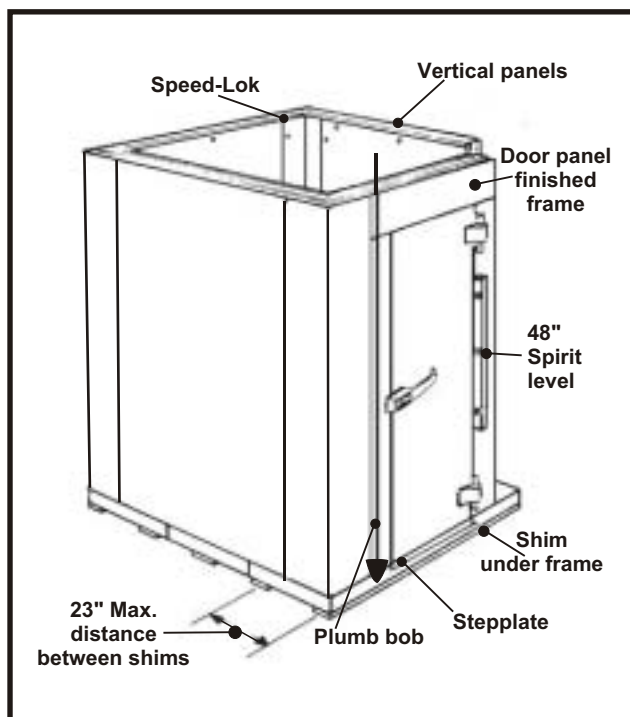

Fig. 12
- D. To prevent sagging or twisting of the door panel, place shims under the floor panels directly beneath the framing position of the door panel, as shown in Fig. 12. Also place additional shims, equally spaced, along the door frame area.